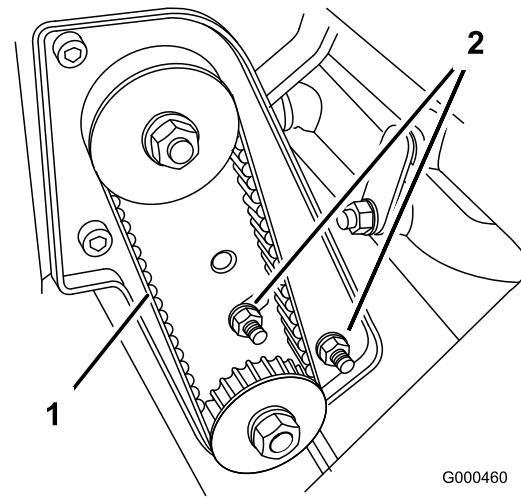

Figure 39
- A. Loosen the bearing housing mounting nuts (Figure 39).
- C. While holding the torque wrench setting, tighten the bearing housing mounting nuts (Figure 39). Do not over-tension belt.